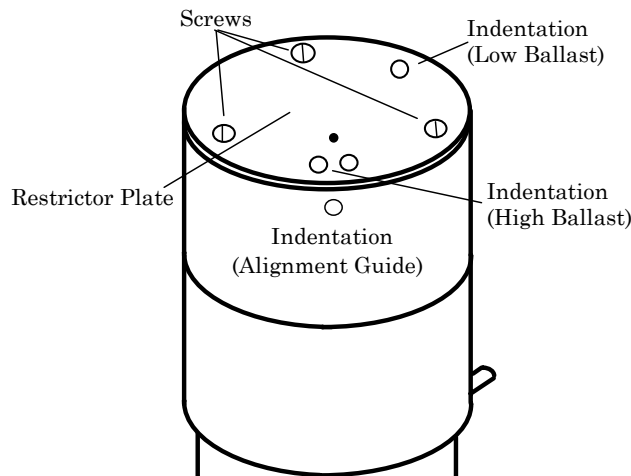

Figure 5 Oil Drain Kit with Ballast Control
2. The restrictor plate on top of the aluminum ballast control has three screws. Remove the three screws that secure the restrictor plate. **DO NOT DISMANTLE THE ASSEMBLY.** (Figure 5)